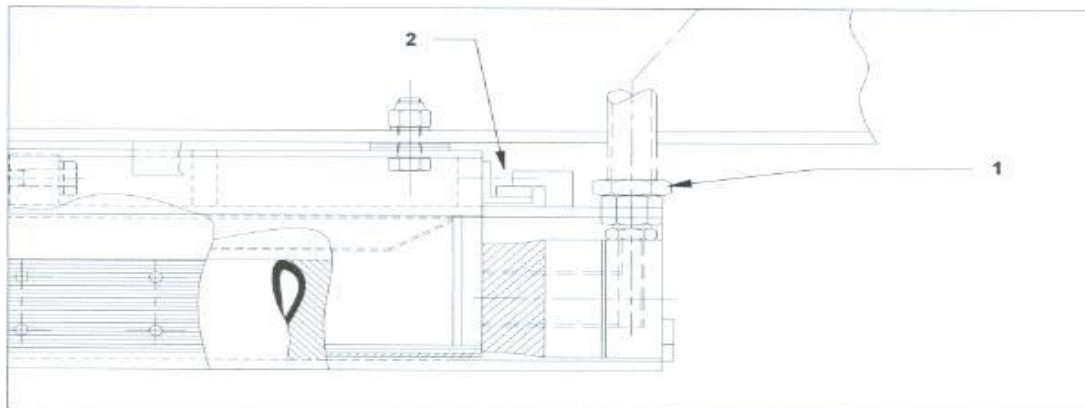

figure 1: Pneumatic coupling of brake
- 2 Loosen the pneumatic couplings (figure 1/1).
- 7 Remove the brake shoe security bolt connections (figure 1/2).